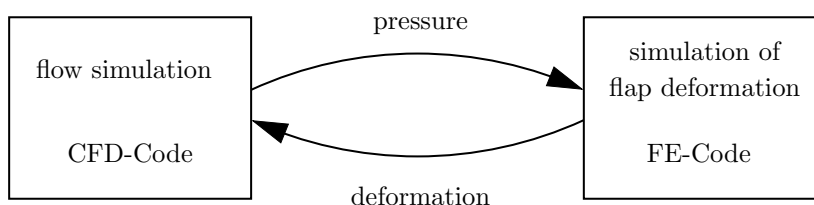

Figure 2: Exchange of quantities in the example FSI simulation.
The computation of the pressure distribution and the flow rates is achieved using *Computational Fluid Dynamics* (CFD), whereas the deformation of the flap can be computed applying numerical structural mechanics via a *Finite Element* (FE) code. Each domain, has a significant influence on the other, thus the problems cannot be solved separately. The CFD simulation requires the deformation of the flap as a boundary condition, whereas the FE simulation requires the fluid pressure as external load. Thus during a co-simulation, these quantities must be exchanged as shown in Figure 2.